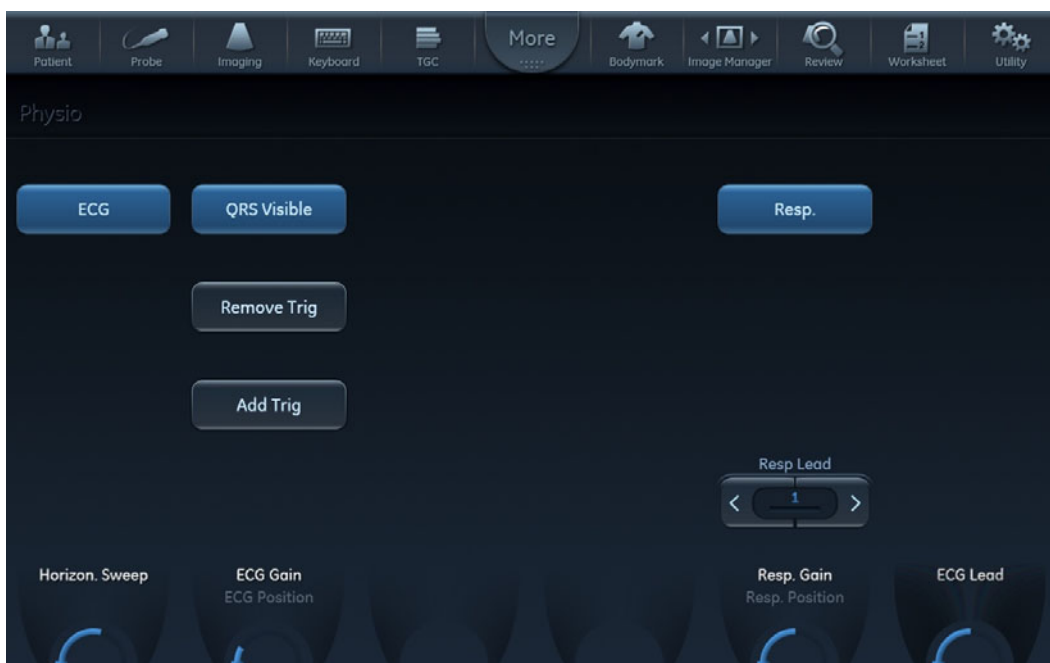

Figure 3-10. ECG controls
1. The ECG is displayed by default in all cardiac applications. For all other applications, press the tab **Physio** on the Touch panel. and press **ECG** (Figure 3-10).